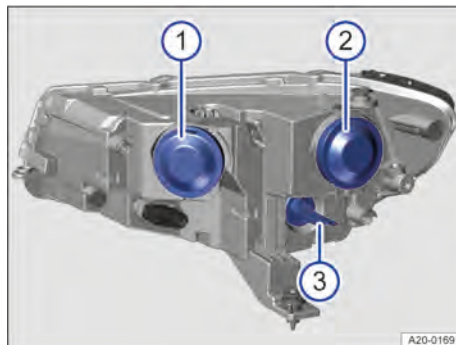

Fig. 182 In the bonnet space: covers on back of the right-hand headlamp.
1. Pull off rubber cover from back of headlamp → Fig. 182 ①.
5. Fit the rubber cover onto the rear of the headlamp → Fig. 182 ①.
1. Pull off rubber cover from back of headlamp → Fig. 182 ②.
5. Fit the rubber cover onto the rear of the headlamp → Fig. 182 ②.